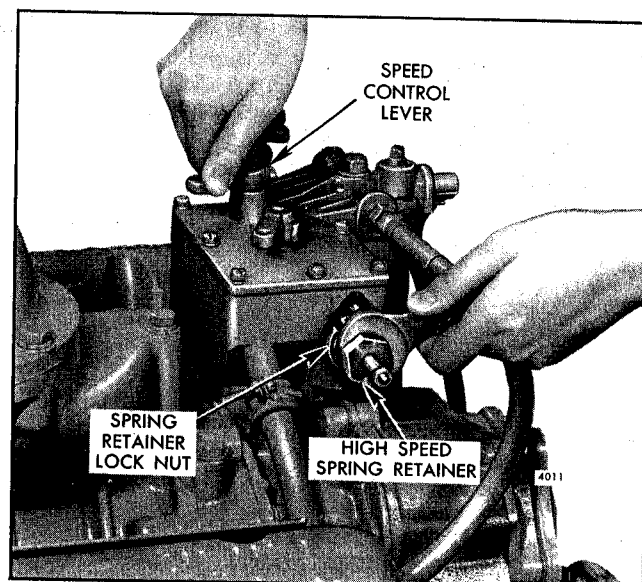

Fig. 13 - Adjusting Maximum No-Load Engine Speed
2. With the engine at operating temperature and no-load on the engine, place the speed control lever in the maximum speed position. Turn the high speed spring retainer in (Fig. 13) until the engine is operating at the recommended no-load speed. Use an accurate tachometer to accurately determine the engine speed. The maximum no-load speed varies with the full-load operating speed desired as shown in the following table.